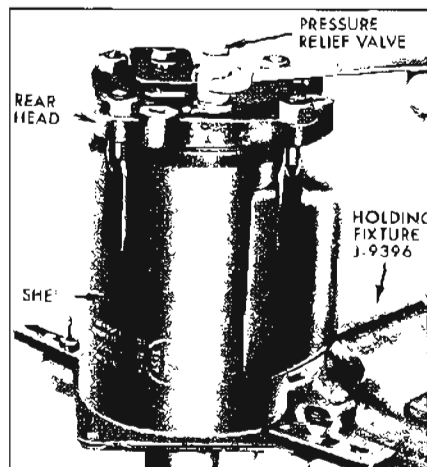

Figure 11-69—Compressor Installed in Holding Fixture
5. Reinstall compressor in Holding Fixture (J-9396) positioned as shown in Figure 11-69.